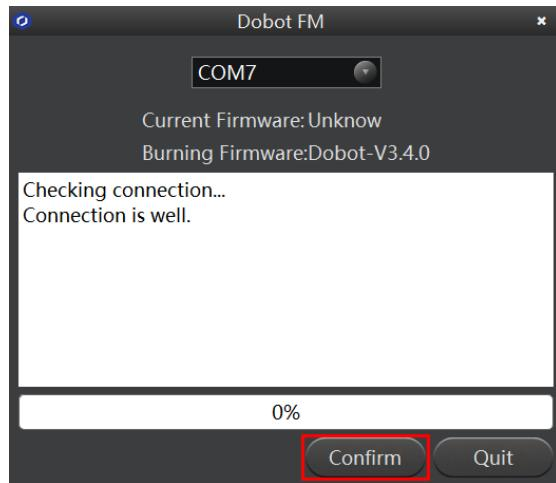
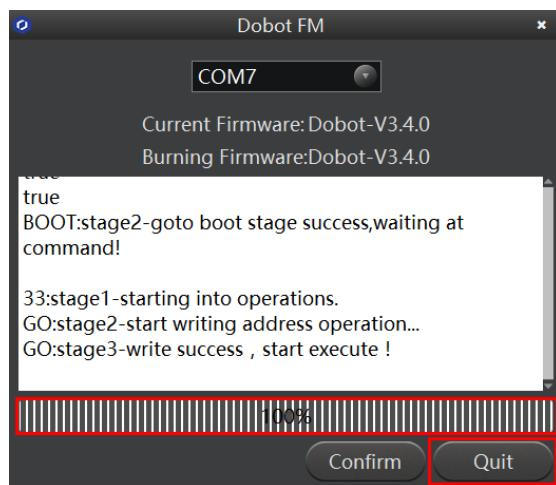

Figure 5.63 Click **Confirm**
Figure 5.64 The firmware upgrade is successful
3. Click **Confirm** to upgrade the Dobot firmware, as shown in Figure 5.63. When the upgrade process bar shows 100% and a short beep sound is heard, it means that the firmware is upgraded successfully, as shown in Figure 5.64. In this case, the LED indicator turns from red to green. Then click **Quit** to exit.